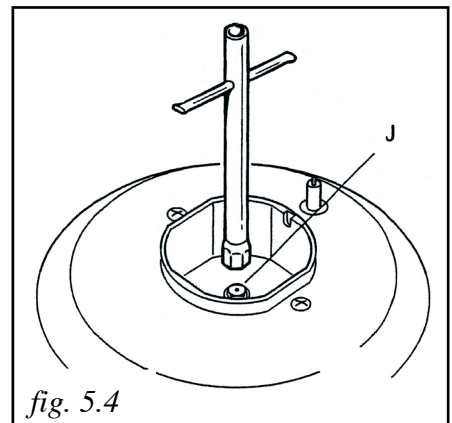

fig. 5.4
- Using a wrench substitute the nozzle injectors “J” (fig: 5.4 - 5.5) with those most suitable for the kind of gas for which it is to be used.